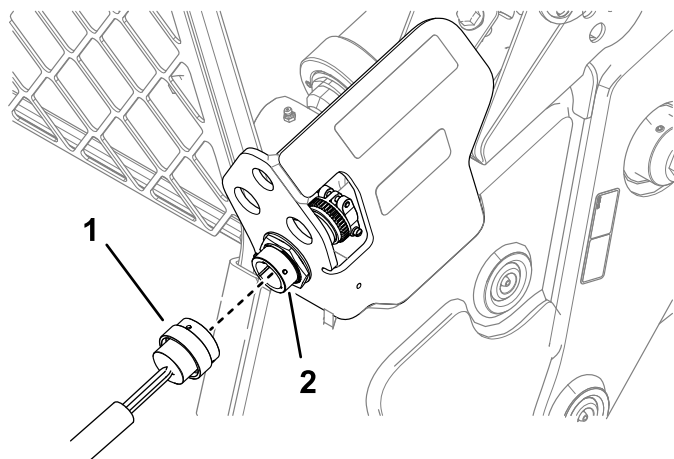

Figure 7
13. Install the 14-pin wire harness (short wire harness) to the auxiliary wire harness (sold separately) at the coupler mount (Figure 7).